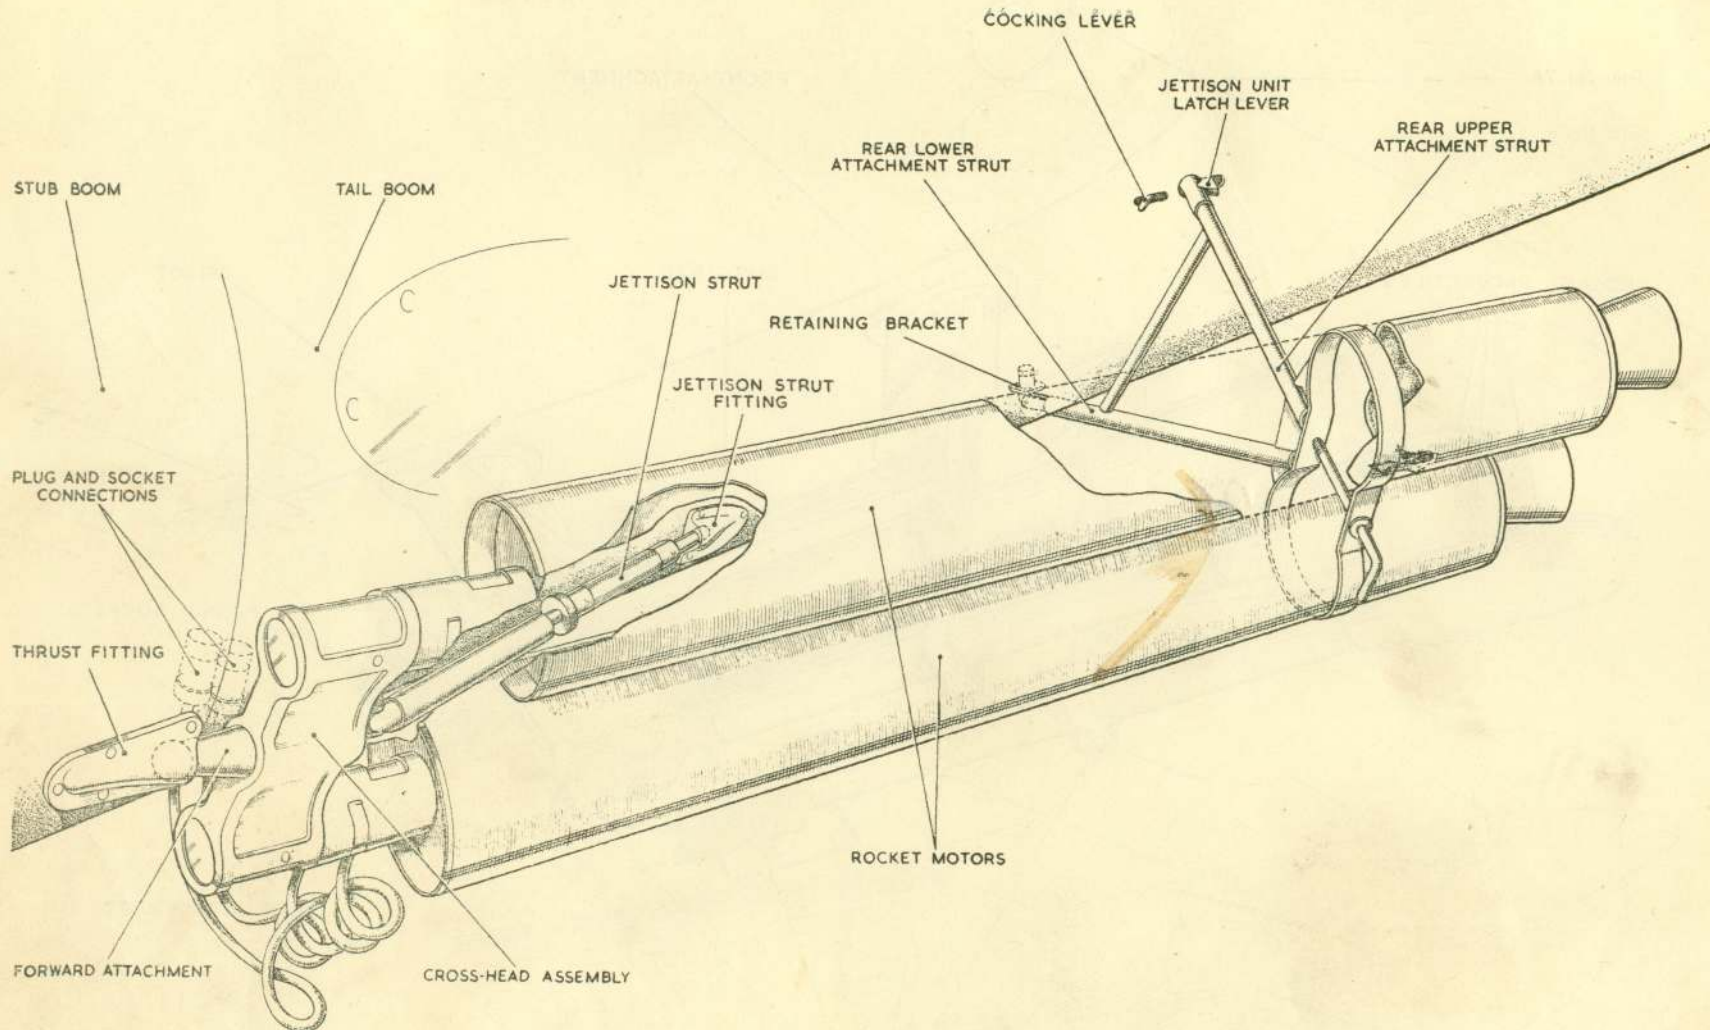

Fig. 3. R.A.T.O. equipment attachment
4. The carrier assemblies are fitted to the outboard side of each boom (*fig. 3*) by locating the thrust rod of the forward attachment into the thrust fitting, the jettison strut into the jettison strut fitting, the lower rear attachment strut into its retaining bracket; the upper rear attachment strut spigot is secured in the latch lever housing by pushing the cocking lever towards the tail of the air-